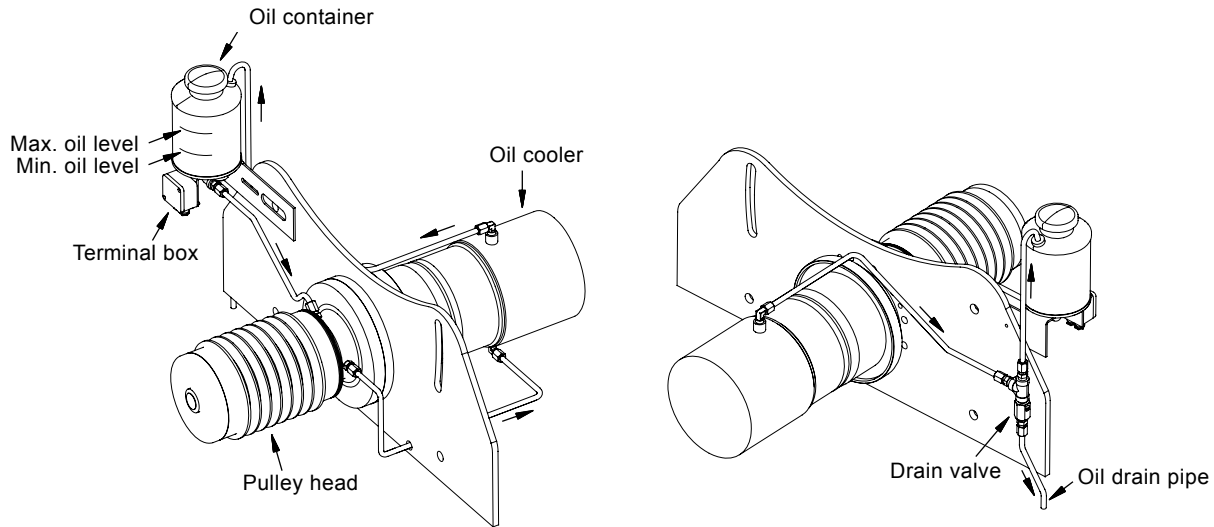

Fig. 23 Oil lubrication system, BME hp feed pump
During operation, there must be a continuous flow of oil to the oil container. Check the flow by looking into the container. See fig. 23.
2. Open the drain valve. See fig. 23. Oil will now run out of the oil drain pipe.
1. Check that the drain valve is closed. See fig. 23.